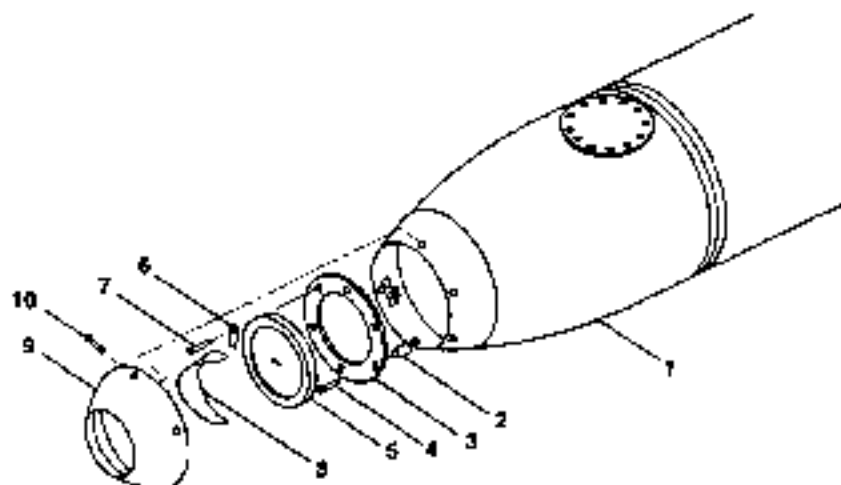

Fig. 13-20 Tip tank taxi light (LH shown, RH opposite)
4.2.1 REMOVAL AND INSTALLATION (See Fig. 13-20)